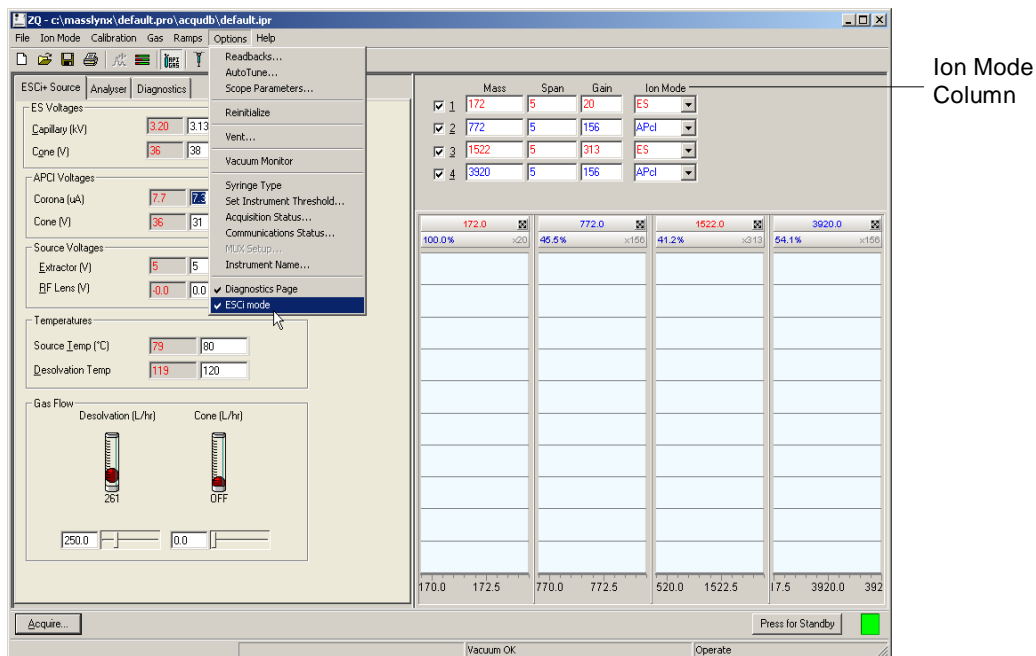

Figure A-4 Tune Window Showing Options List with ESCi Mode Selected
1. Select **Options > ESCi mode** (Figure A-4). A check mark appears on the drop-down list, beside ESCi, and the Ion Mode column appears in the Peak Editor.